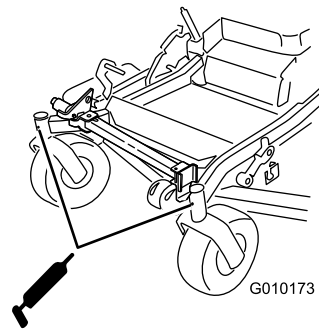

Figure 45
9. Remove the grease zerk in the hole. Install the hex plug and dust cap (Figure 45).